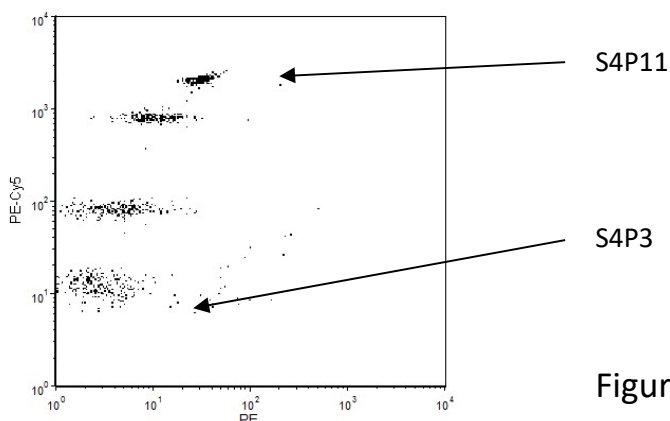

Figure 2
- 5) Adjust "PE-Cy5" PMT voltage so that all the bead populations are clearly separated on the histograms and dot plots (Figure 2).
- 6) Adjust PE PMT voltage so that the dimmest bead population is positioned within the first decade on the PE-axis of the plot (Figure 2).